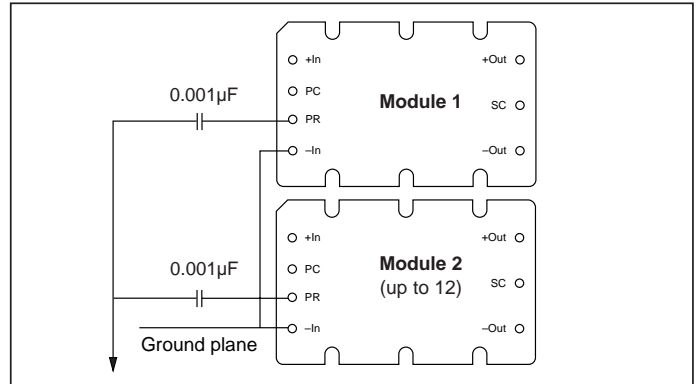

Figure 10—AC coupled single-wire interface.
**AC coupled single-wire interface.** All PR pins are connected to a single communication bus through 0.001μF (500V) capacitors. This interface supports current sharing and is fault tolerant except for the communication bus. See Figure 10.